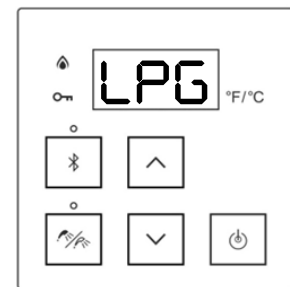

Figure 51:
- 3(B). **If using propane gas:** Press the up or down arrow button. The controller displays “LPG” (Liquid Propane Gas) (Figure 51).